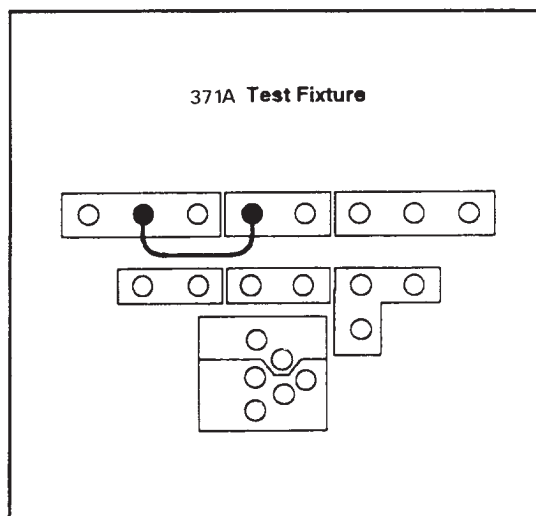

Figure 4-27. Setup for checking maximum peak current in HIGH CURRENT mode.
1. Connect a patch cord between the HIGH CURRENT terminal and the COMMON terminal as shown in Figure 4-27.